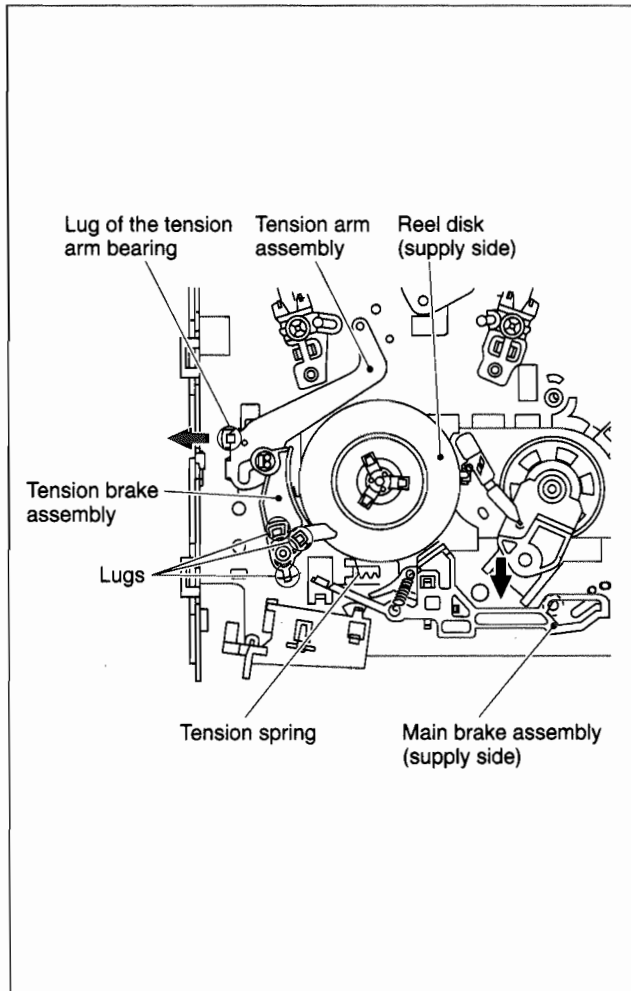

Fig. 2-2-39
- (1) Remove the three lugs of the tension brake assembly from the main deck and pull them off.
- (2) Remove the reel disk (supply side) by loosening in the arrow-indicated direction the main brake assembly (supply side).
- (3) Remove the tension spring on the back of the main deck. Then release the lug of the tension arm bearing in the arrow-indicated direction and draw out the tension arm assembly. (See Fig. 2-2-39.)